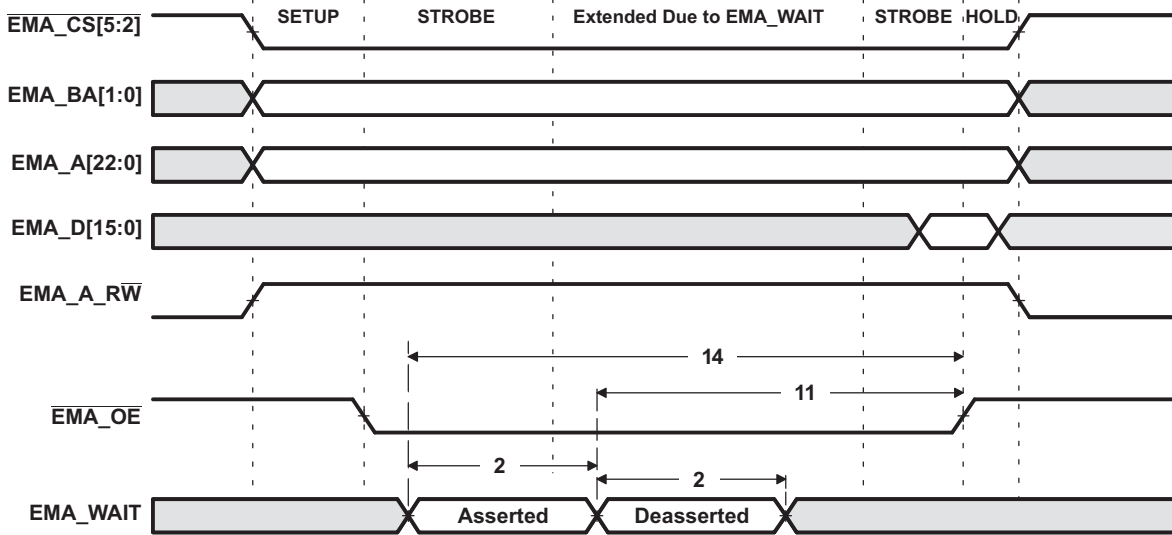
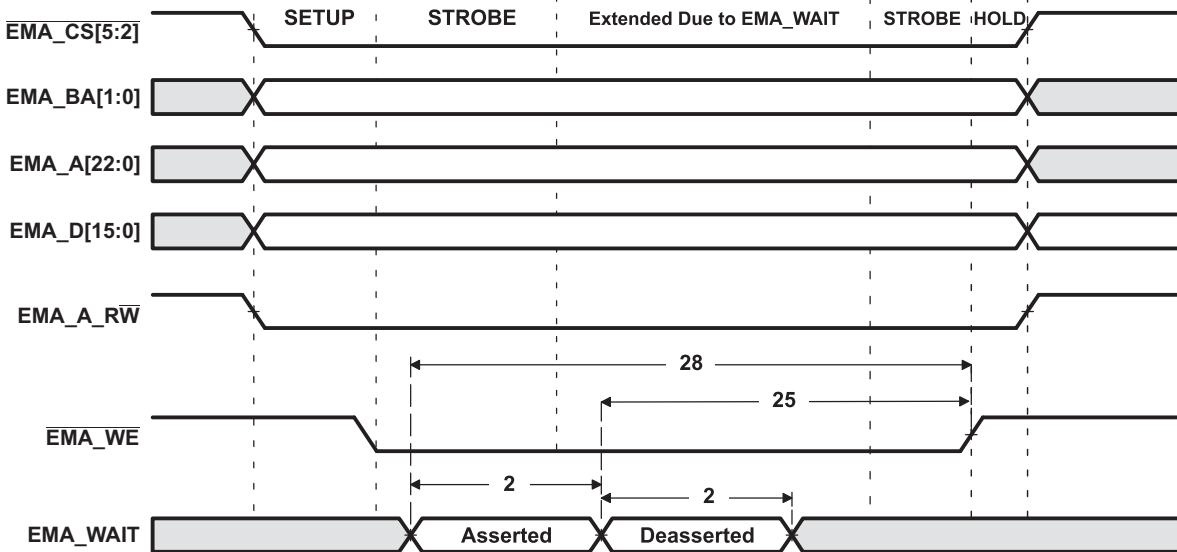

Figure 6-16. EMA_WAIT Read Timing Requirements
Figure 6-17. EMA_WAIT Write Timing Requirements
(1) E = EMA_CLK period or in ns. EMA_CLK is selected either as SYSCLK3 or the PLL0 output clock divided by 4.5. As an example, when SYSCLK3 is selected and set to 100MHz, E=10ns
(2) Setup before end of STROBE phase (if no extended wait states are inserted) by which EM_WAIT must be asserted to add extended wait states. Figure 6-16 and Figure 6-17 describe EMIF transactions that include extended wait states inserted during the STROBE phase. However, cycles inserted as part of this extended wait period should not be counted; the 4E requirement is to the start of where the HOLD phase would begin if there were no extended wait cycles.